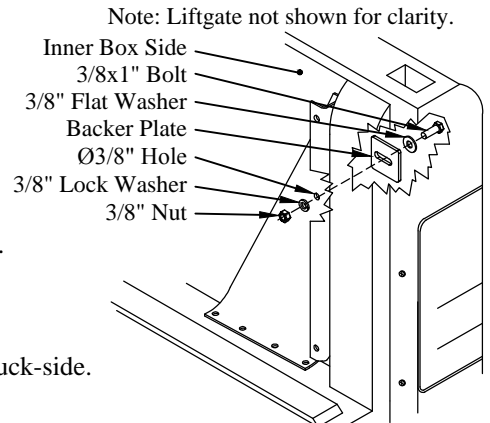

Figure 15: Additional support location.
1. **Locate** the existing 3/8" hole in the mounting bracket (Figure 15).
4. **Fasten** the mounting bracket to the inner box side using the supplied (Figure 15):